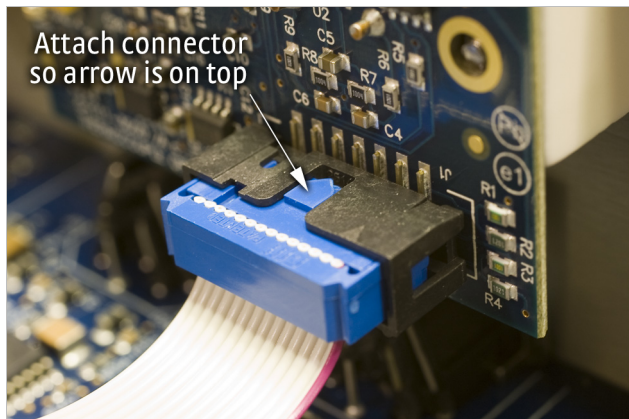

FIGURE 7-3 Proper orientation of the ribbon cable connector plug
8. Place the option card into its position in the rear panel from inside the instrument. Orient the card so that the 14-pin ribbon cable connector is toward the bottom of the instrument, closest to the main circuit board (FIGURE 7-3).
12. *This step is not applicable to the 3062 option card.* Insert the 14-pin ribbon cable connector plug into the socket on the option board. Orient the ribbon cable connector plug so that the arrow nub slides into the plug slot, and the ribbon cable exits downward (FIGURE 7-3).